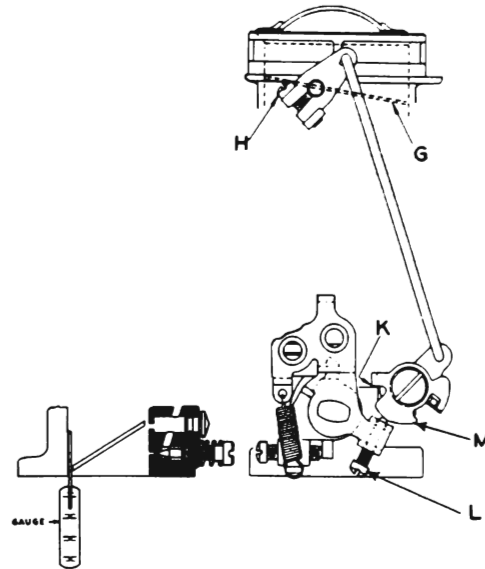

Fig. 6-83. Fast Idle Setting
- Insert gauge wire .012" in diameter between throttle valve and wall opposite idle port on Model 487S and Model 528S, or .015" on Model 533S. Screw in idle adjustment screw "L" until gauge just slips out. See Fig. 6-83.